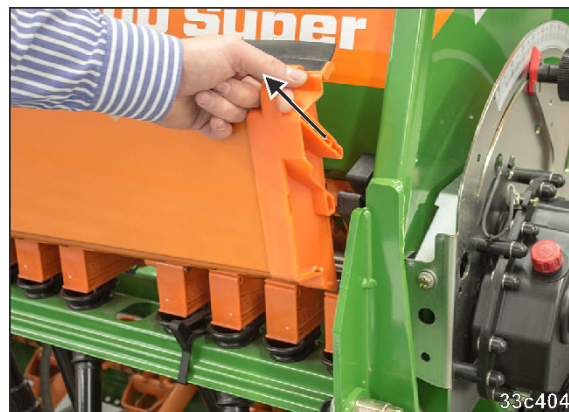

Fig. 216
1. Pull the calibration trays (Fig. 216) upwards out of the bracket.